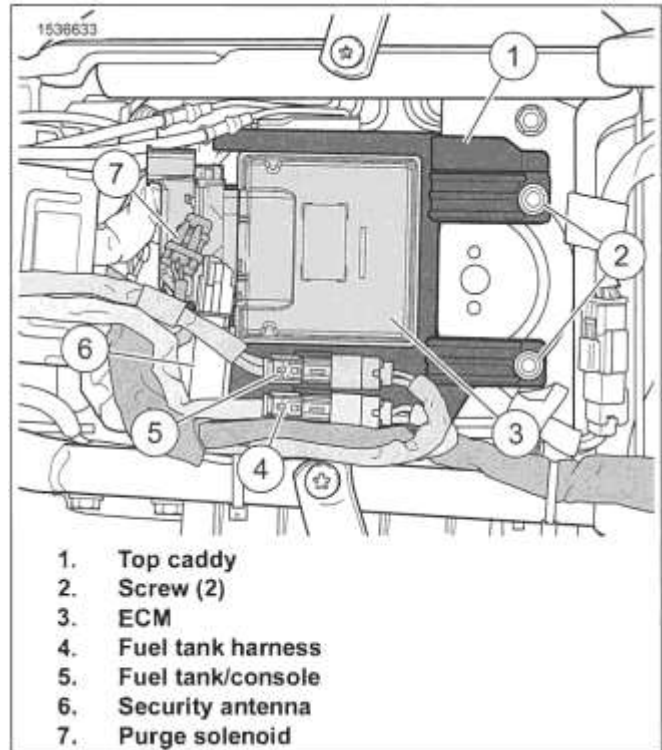
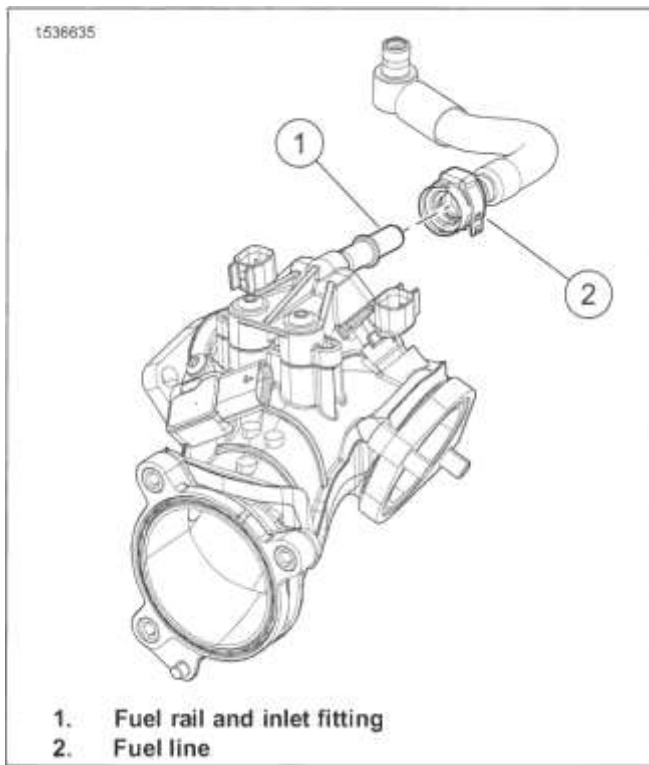
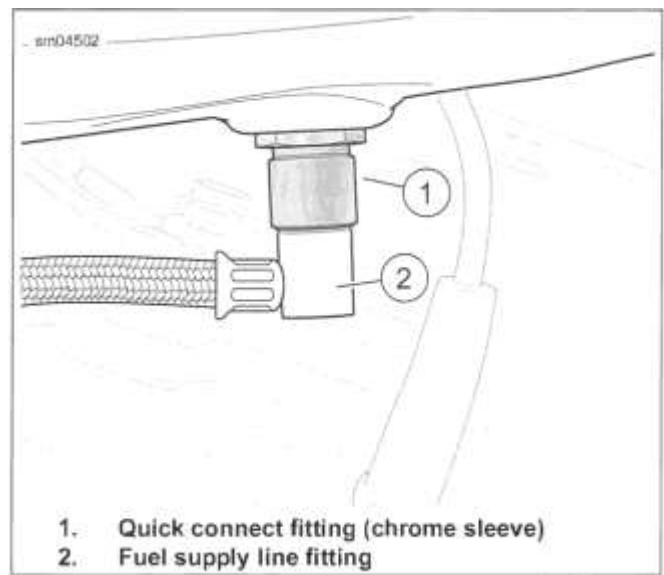

Figure 6-5. Top Caddy
Figure 6-6. Induction Module Assembly
Figure 6-7. Fuel Tank (Left Side View)
- a. **Models with fairing:** See Figure 6-5. Disconnect fuel pump connector [13] (gray) (4).
6. See Figure 6-7. Remove fuel supply line.
- a. Pull up on chrome sleeve of quick-connect fitting (1).
- b. Pull down on fuel supply line (2) fitting to disconnect.
1. **Models with fairing:** See Figure 6-5. Disconnect fuel pump connector (gray) (4).
2. **Models without fairing:** Disconnect fuel pump connector (black) (5). See TOP CADDY (Page 8-107).
3. See Figure 6-6. Remove fuel line from induction module.
4. See Figure 6-7. Remove fuel line from fuel tank.
- a. Pull up on quick-connect fitting (1).
1. See Figure 6-6. Install fuel line to induction module.
2. See Figure 6-7. Install fuel line to fuel tank.
- a. Connect fuel line (2) to quick disconnect fitting.
- b. While pushing up on bottom of fitting, pull down on quick connect fitting (1).
3. **Models with fairing:** See Figure 6-5. Connect fuel pump connector (gray) (4).
4. **Models without fairing:** Connect fuel pump connector (black) (5). See TOP CADDY (Page 8-107).